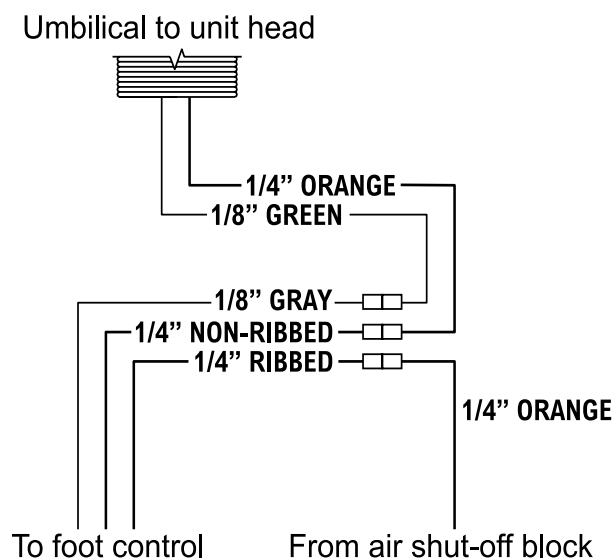

Figure 3
1. Locate the control head rainbow tubing coming from the unit umbilical (it will be enclosed in a braided sheath). Connect the tubing to the corresponding bundle of tubing coming from the air and water shut-off blocks. Match tubing by color and number and twist connectors until tight. If a wet/dry foot control will be connected at this location, make the additional connections shown in figure 3.